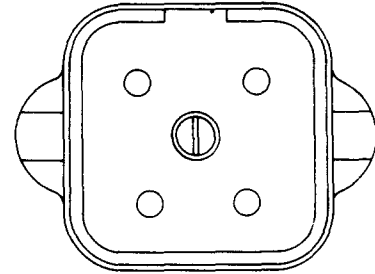

Fig. 18—423A Plug
**2.18 423A:** The 423A plug (Fig. 18) consists of a block of insulating material, containing four intermeshed coil spring contacts, and a cover. The block and cover may be furnished in a variety or combination of colors. This plug is designed to mate with the 505A- or similar-type plugs and is used with the 750A-type telephone sets.